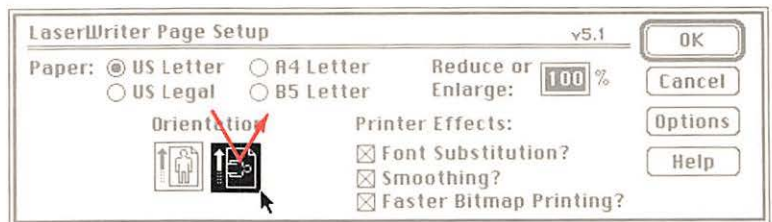

Figure 3-9
7. Select the sideways icon. (See Figure 3-9.)